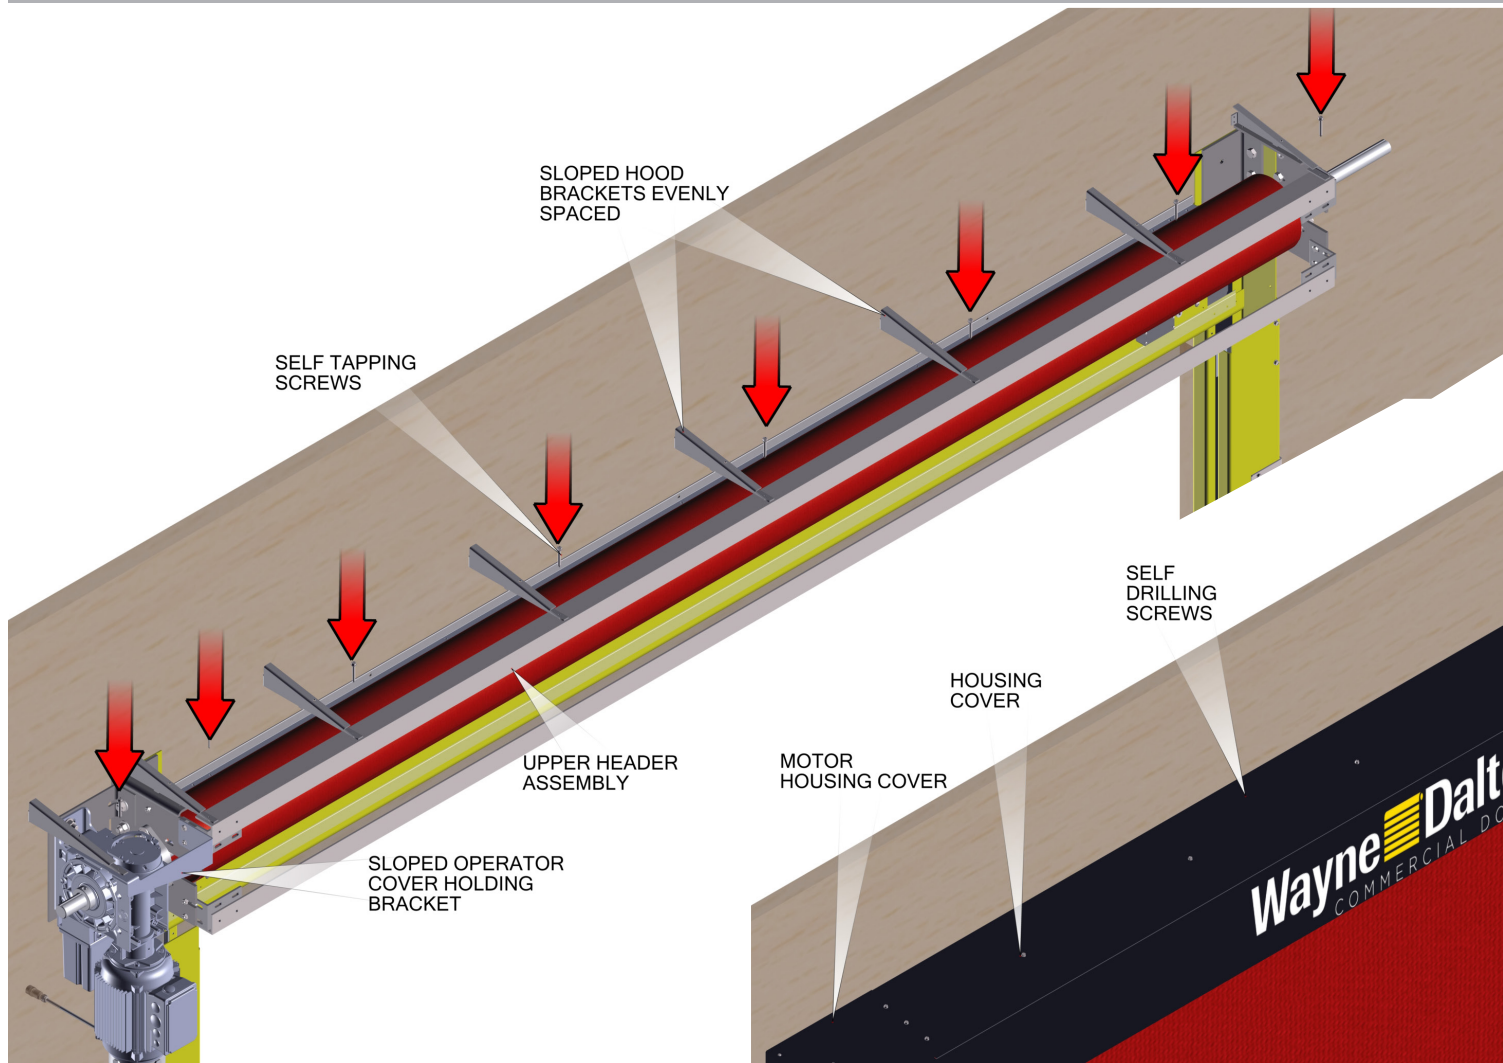

Figure 15
- Install the hood and motor housing using the self drilling screws provided. If you have a standard hood, see Figure 14. If you have a sloped hood, see Figures 15 and 16.